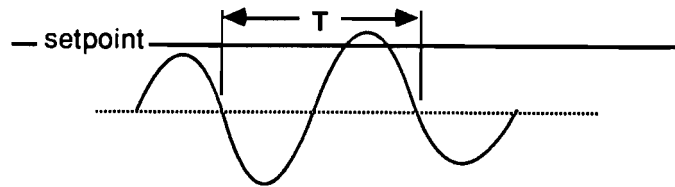
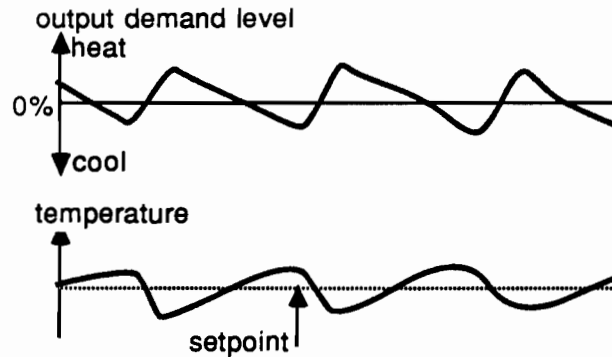

Figure C.7. Determining period of oscillation, T , with closed-loop cycling method.
Figure C.9. Cooling oscillation.
derivative terms) in oscillation by setting the proportional band to a very small value, the control loop cycles with a characteristic frequency (Figure C.7). This characteristic frequency is a very accurate representation of the system's responsiveness and is used to derive the controller time constants.
- Reduce the value of ProP until the measured value oscillates. Measure the period of oscillation T as shown in Figure C.7.
- Widen the proportional band (increase the value of ProP) until the process is just slightly unstable. This value is called the point of *ultimate sensitivity* (P).
A relative cool gain setting that is too high results in *cooling oscillation*. Cooling oscillation has a particular characteristic and is very easily diagnosed. As shown in Figure C.9, the temperature slowly rises above setpoint as the power demand from the controller decreases gradually. Eventually, the cooling action causes a rapid drop in temperature resulting in a sharp increase in power demand back into the heating region. The classic cycling between heating and cooling with this sawtooth waveform characteristic is reduced by lowering the relative cool gain adjustment.
The first thing to do is to compare the period of oscillation (Figure C.7) to the integral time constant setting; the integral time constant should be at least as long as the period of oscillation. If the integral time constant is shorter than the period of oscillation, it should be increased to at least that value. If the loop continues to oscillate with the appropriate integral term, the proportional band should be increased to eliminate the oscillation. Make sure the zone is not in cooling oscillation (Figure C.9).